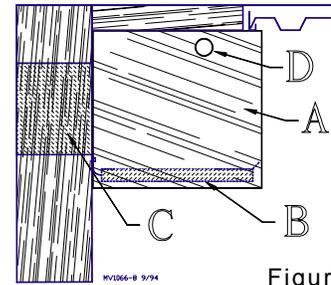

Figure 4.
Legend: Figure 4
10. Use a section of baffle, plywood, or other material as an end stop at both ends of each baffle run. Drill a 1/4 inch (6 mm) hole in each end stop to allow the cable to travel through without restriction. Make sure the holes are directly in line with the cable to avoid damage to the cable or end stops. See Figure 4.